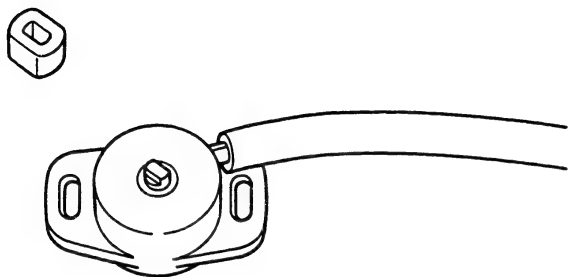

Fig. 212 Confirmation of the output voltage
- Replace the potentiometer if defective. (Figs. 212 and 213)